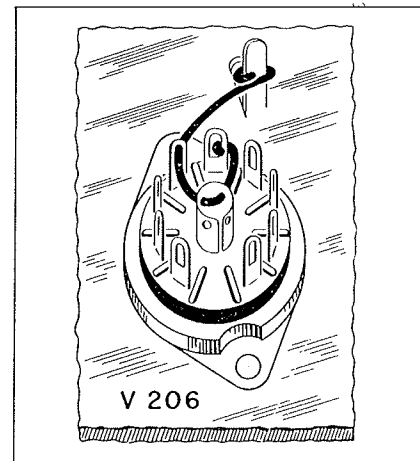

Figure R-1
5. Change ground on pins 4 and 5 of V206 as shown in Figure R-1.